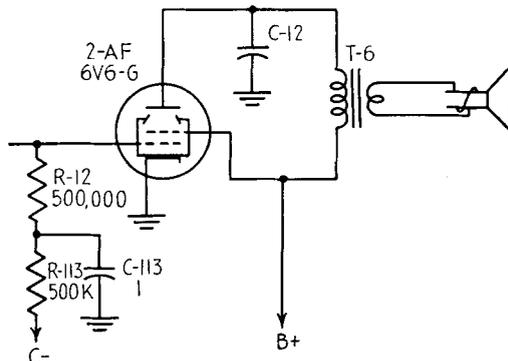

FIG. 10-16. Fixed bias circuit in the second AF stage.
**Fixed bias in the second AF stage.** The fixed-bias circuit is found in radios where the negative leads of the filter condenser are not at chassis potential, as shown in Fig. 10-16. In this circuit the cathode is grounded, and negative grid bias is obtained by connecting the grid return to a